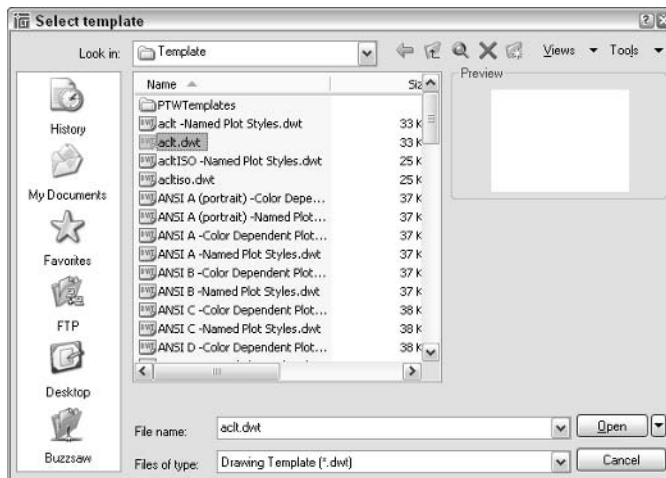

Figure 4-2:
4. **Select the ac1t.dwt template, as shown in Figure 4-2, and click the Open button.**